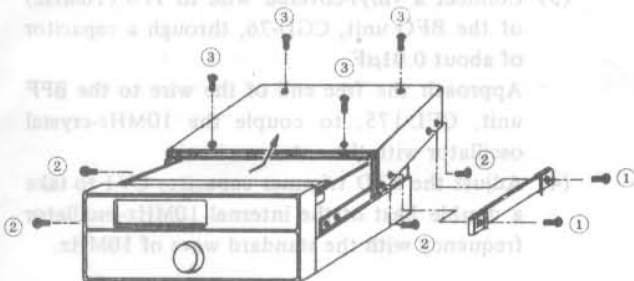

Figure 4.1 Removing the Clamping Screws
- (1) Remove ten screws in the order of ① to ③, according to Figure 4.1.
- (2) With pushing the upper cover backward, hold it up until taken off.